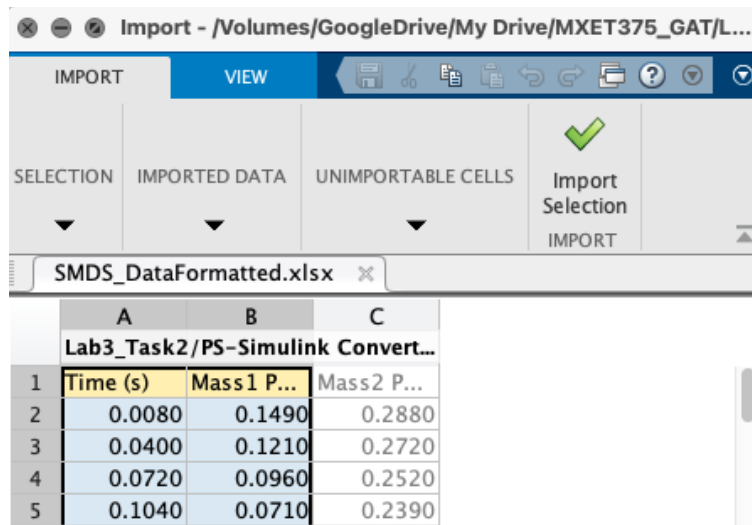

Figure 8: Mass 1 Data Import Selection
8. In the import selection window, select the data set for Mass1, that is columns A & B only. Be sure the entire data set down to the 4.5 seconds is selected. Then click on the “Import Selection” button in the top ribbon, as shown in figure 8.